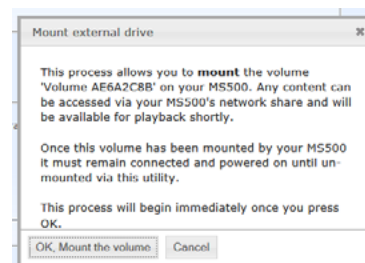
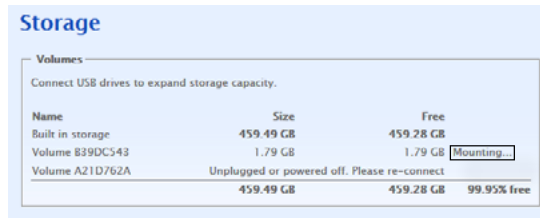

Figure 40
Figure 46
1. Start the Mount process by clicking on the button “OK, Mount the volume” (Figure 40). During the “Mount” functioning, various messages will appear in the window indication the “Mount status”. Refer to figure 46.